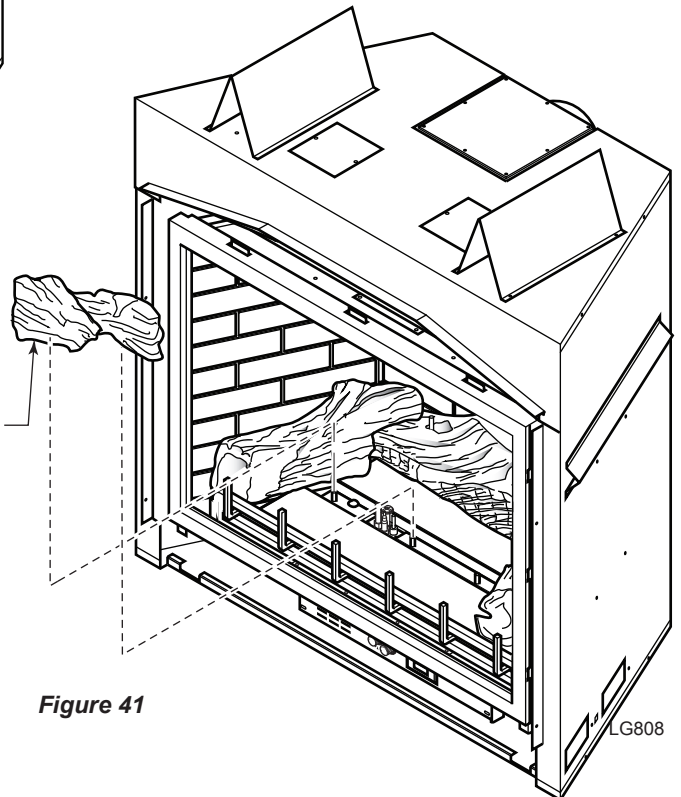

Figure 41
- 6. Place left mid log (#6) on two left pins on burner assembly. *Figure 41*